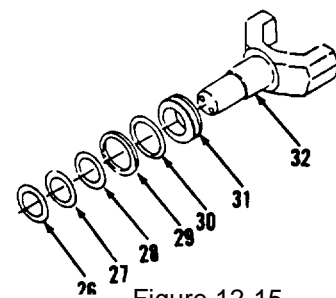

Figure 12-15.
10. Remove washers (26, 27 and 28), seals (29 and 30) and ring (31) from yoke (32, Figure 12-15). Discard seals (29 and 30).
1. Install ring (31), new seals (30 and 29) and washers (28, 27 and 26) on yoke (32, Figure 12-15). Use expander assembly to install seals (30 and 29).